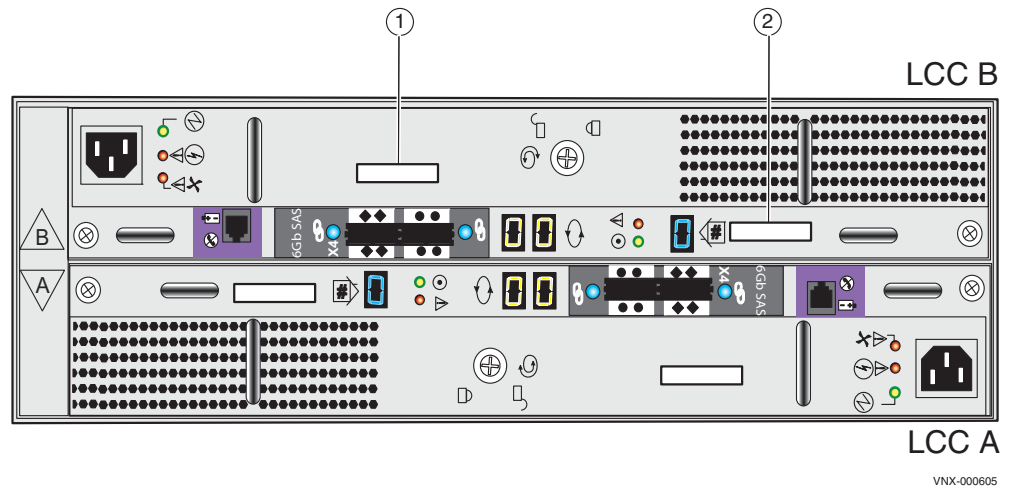

Figure 36 Example of 3U, 15 (3.5-inch) LCC
Figure 36 shows the part number label location on the rear of the 3U, 15 (3.5-inch) DAE for the LCC and power supply.
1. The rear of the 3U, 15 (3.5-inch) DAE has the LCC power supply and LCC inverted or on top of each other. In other words, the LCC B power supply is located on the top of LCC B. While LCC A is located on the bottom of the DAE with LCC A on top of the LCC A power supply (Figure 36).